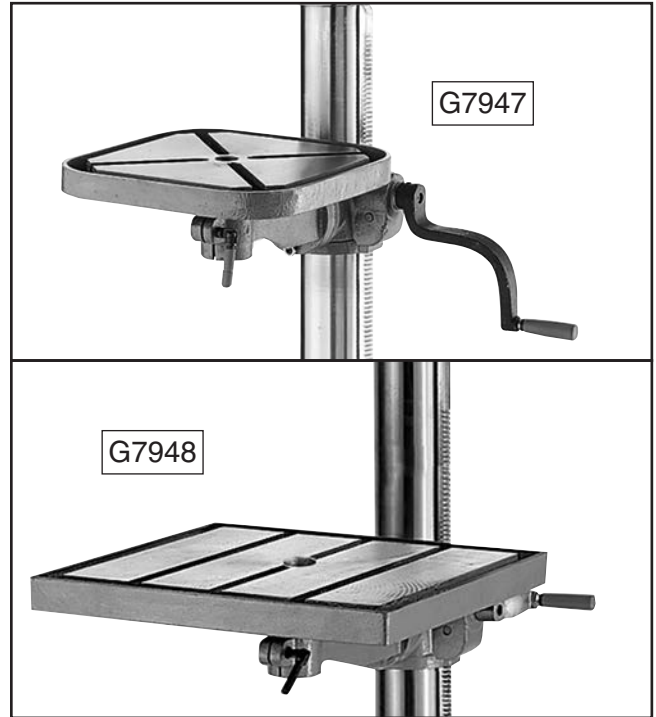

Figure 25. Tables installed.
- Tighten small locking lever to secure table in table support assembly. The table should now be installed as shown in **Figure 25**.